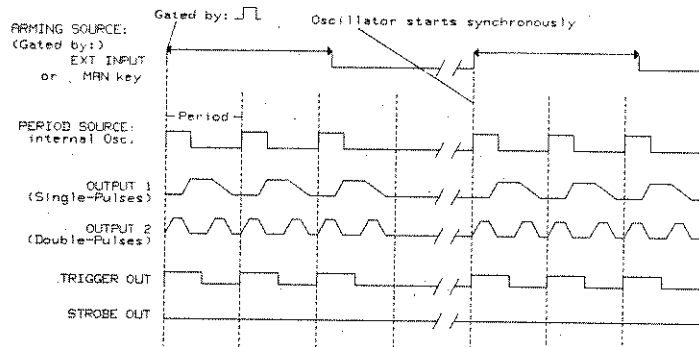

Figure 3-13.
Figure 3-13 does not show the intrinsic fixed delays between the **EXT INPUT** and the **TRIGGER/STROBE OUT** signals, and between the **TRIGGER OUT** and the main **OUTPUT 1/2** signals. Refer to Chapter 6 for the typical values of these delays.
- internal Ω_{sc} (Start of pulse synchronized to trigger, see Figure 3-13)